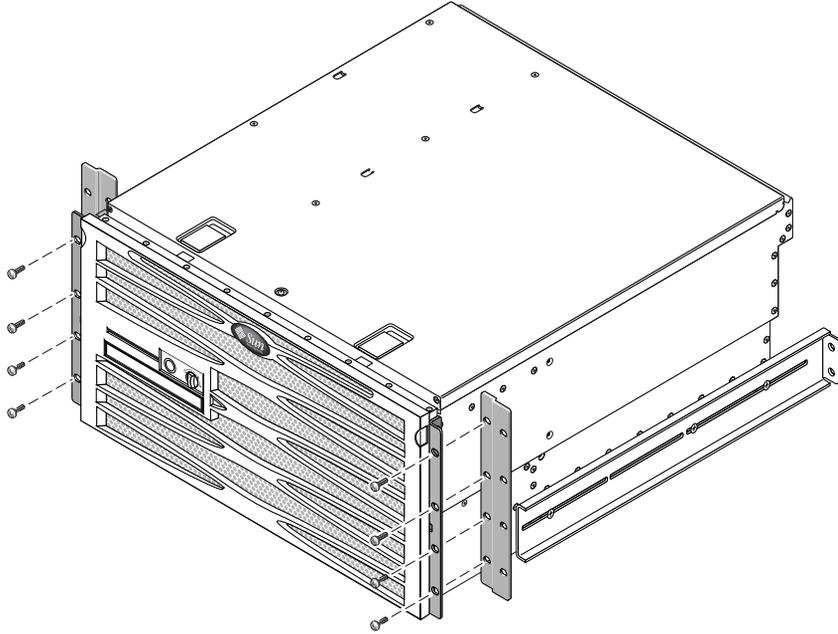

FIGURE 3-18 Attaching the 600 mm Front Adjuster Brackets to the Front Hardmount Brackets
7. Using eight of the supplied M5 × 8 mm panhead Phillips screws (four screws for each adjuster bracket), attach the 600 mm front adjuster brackets to the front hardmount brackets (FIGURE 3-18).